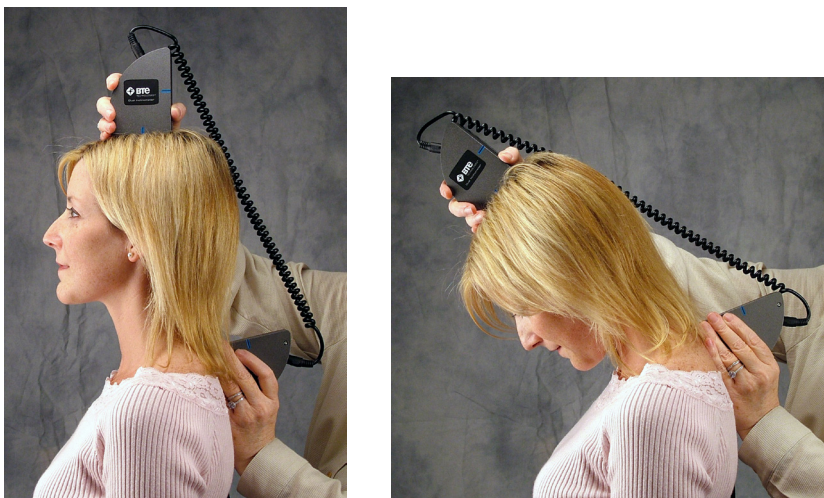

Figure 3-2. Initial & Final Cervical ROM Flexion
- Step 1. Align the Inclinometer sides in the sagittal plane and place one of the sides on the top of the head (Figure 3-2).
- Step 2. Place the other side on T1 (Figure 3-2).
- Step 4. Have the client maximally flex the head (Figure 3-2).